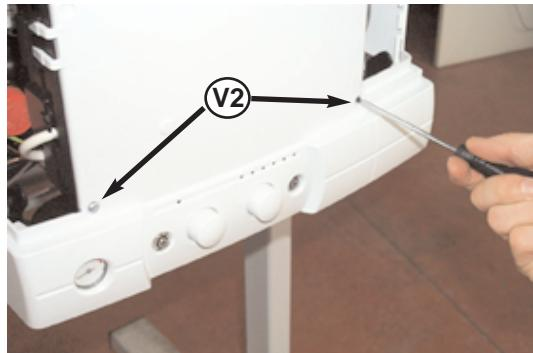

Fig. 96
6. Remove the two screws “**V2**” and pull toward you unlocking the two clamps “**V3**” (see Fig. 96 & 97);